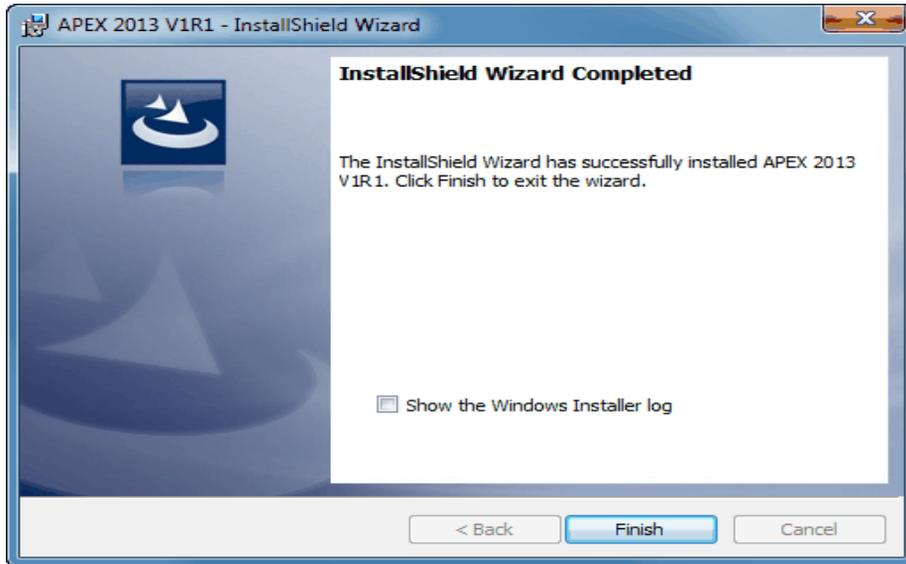

Figure 4 Completed installation page
- 4 When the installation is complete, click **View APEX Release Notes** to view descriptions of new and enhanced features as well as resolved issues. See Figure 4.